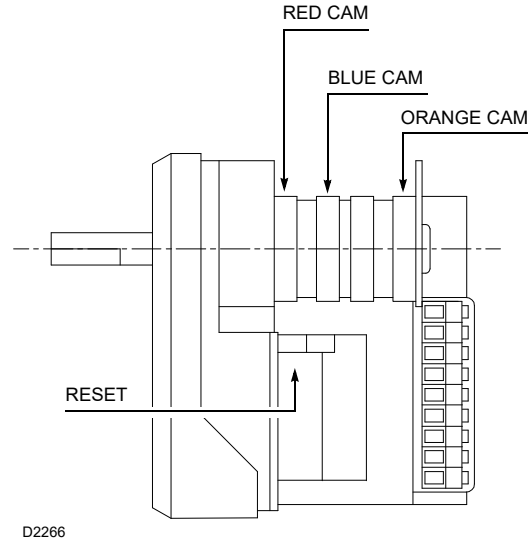
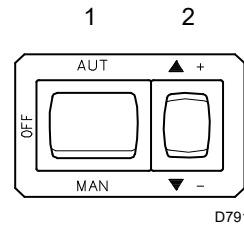

Fig. 29
Fig. 30
Close the control circuit and set switch 1)(Fig. 30) to “MAN”.
In the above instructions we left the burner running in MIN. output operation. Now press switch 2)(Fig. 30, page 26) "increase output" and keep it pressed until the servomotor has opened the air damper and the gas butterfly valve to 90°.
Press switch 2)(Fig. 30, page 26) "output reduction" until the servomotor has closed the air damper and the gas butterfly valve to 15° (factory set adjustment).
- If this value is to be reduced, decrease the angle of orange cam (Fig. 29, page 26) slightly by proceeding a little at a time until the angle is changed from 15° to 13° or 11°....
- If it has to be increased press the switch "output increase" 2)(Fig. 30, page 26) (i.e. open the gas butterfly valve by 10-15°), increase the orange cam angle (Fig. 29, page 26) with small successive movements, i.e. take it from angle 15° to 17° - 19°.... Then press the switch "output decrease" until the servomotor is taken to the minimum opening position and measure the gas delivery.
With the switch 1)(Fig. 30, page 26) move in intermediate outputs and set the variable profile cam 3) by turning the screws 4).